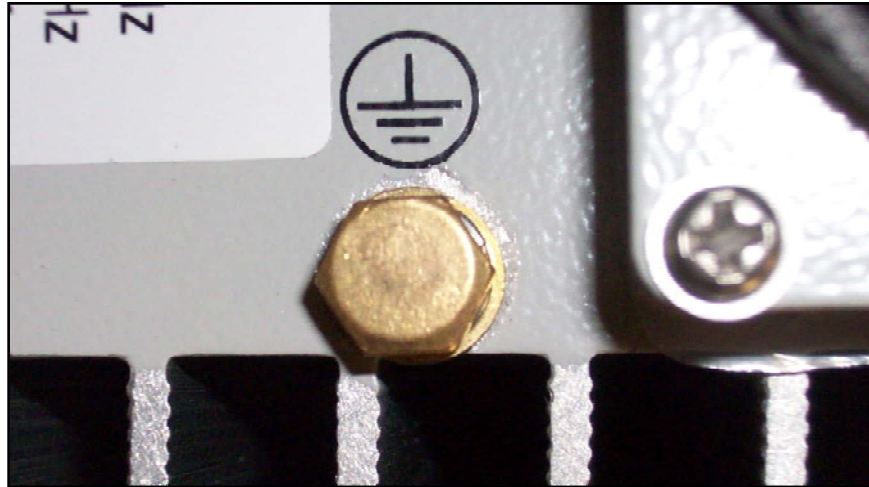

Figure 4-7. Grounding Connection
2. Loosen the hex nut located on the grounding connection as shown in **Figure 4-7**.